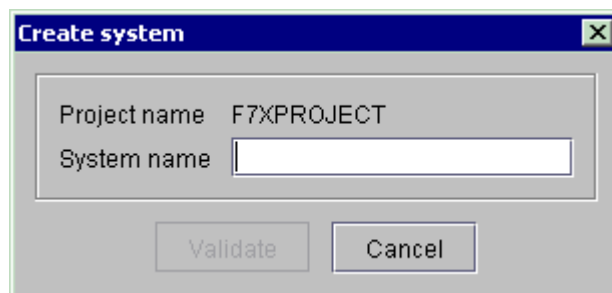

Figure 139 : Create system
- ◆ the dialog box (Figure 139) is displayed.